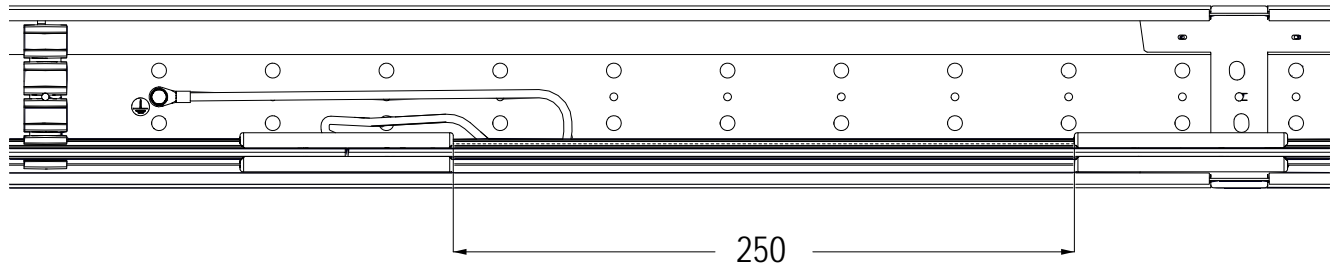

Fig. 56: Distance from connector with protective conductor connection to normal connector
- Lay the other PE cable end in a loop on the ProShell support profile (see Fig. 56) and attach the ring terminal to the PE cable using the screw elements (1, 2, 4 and 5) on the ProShell support profile (see Fig. 55). For this purpose, an existing bore in the ProShell support profile rail can be used. Laying the PE cable in a loop is therefore important, since the conductor rail, including its connector, is subject to thermal expansion and can therefore lengthen or shorten (see Fig. 56).